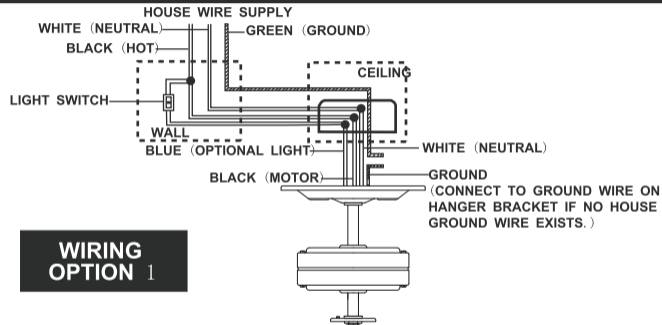

Fig. 3
**Step 3.** Figure 3 & 4 Illustrate the wiring connections using optional wall unit. (Available at your Minka-Aire® Retailer.)